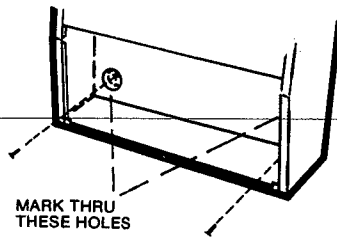

FIG. 6. LOWER FIXINGS
**STEP 6.** Mark the lower holes for drilling as shown in Figure 6. Remove heater and drill holes and secure anchors. Re-hang the heater and secure by fixing screws through the recessed holes located at the bottom of heater.